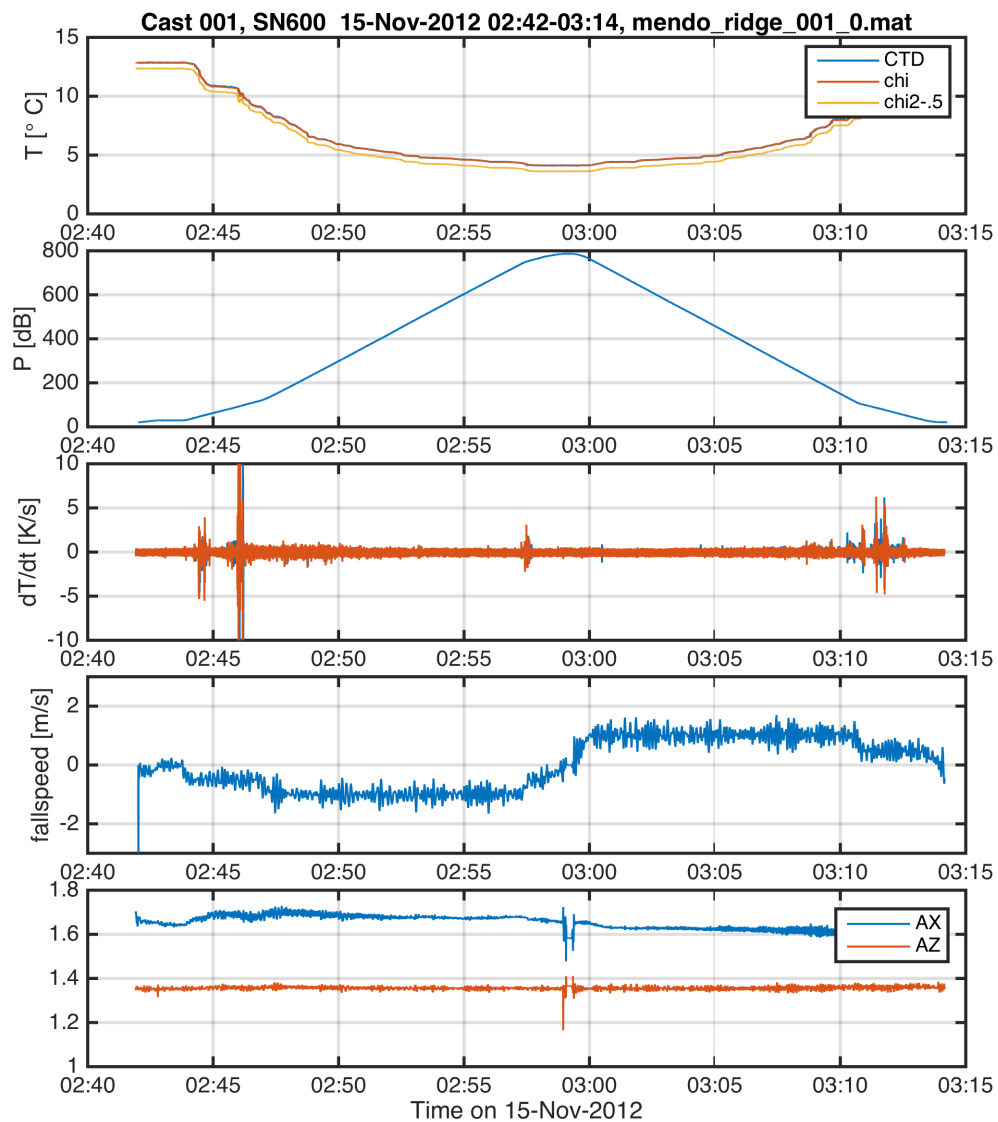

Figure 5: Time series of aligned and calibrated chipod data for one cast.
- `cast_001_T_P_dTdz_fspd` (Figure 5). Summary of the aligned and calibrated data.